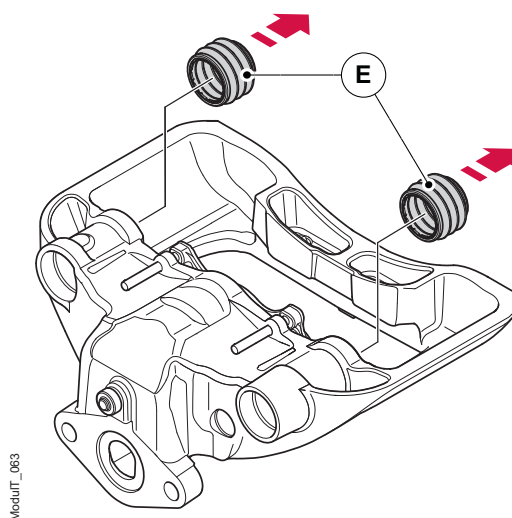

Figure 53. Remove the slide pin bellows.
6. By hand, carefully remove the two slide pin bellows (E), see figure 53. If required, use a small screwdriver to assist by levering them out. Be careful not to damage the slide pin bellows sealing surfaces if using a tool to levering out the bellows.